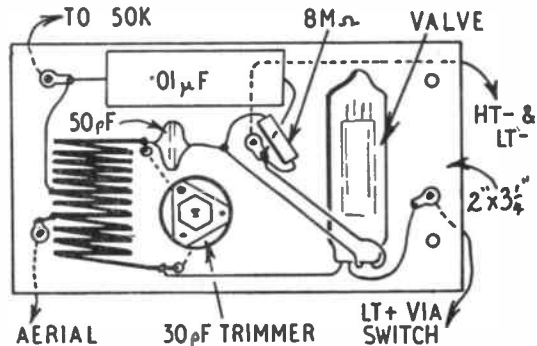
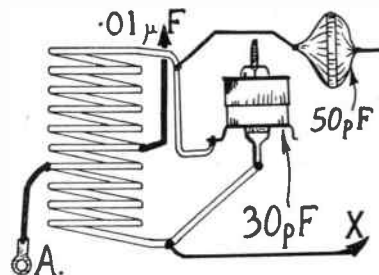
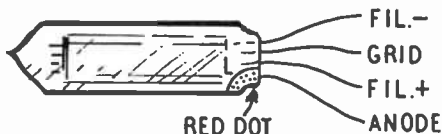
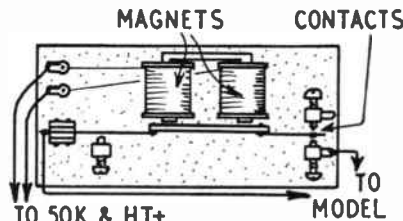

Fig. 2—Wiring diagram of receiver
Fig. 3—Coil and trimmer wiring
Fig. 4—Valve connections
Fig. 5—A dual coil relay
connections, are shown in Fig. 2. The trimmer should be mounted first. To do this, drill a clearance hole for the side and central tags, so that the trimmer fits flat on the Paxolin panel. The side tags are then turned out to hold the trimmer in place.
Coil and trimmer connections are also shown in Fig. 3, and this should make wiring perfectly clear. A centre tap is needed on the coil, and is made by soldering a short length of wire to the centre turn. This wire goes to the $0.1\mu\text{F}$ condenser, and 50K variable resistor.
For the aerial connection, a further short wire is soldered on about one turn from the centre tap. This is marked (A) in Fig. 3. The bolt holding the soldering tag provides a connecting point for the aerial. Subsequently, the aerial tapping may be moved a further turn or so away from the centre tap, if a very short aerial is to be used on the model.
The 50pF fixed condenser is soldered to one end of the coil, as shown in Figs. 2 and 3. The anode lead of the valve is soldered to the other end of the coil, as in Fig. 2. This is marked (X) in Fig. 3.
Two small holes are drilled in the panel, so that a short loop of thin string will hold the valve in place. The valve base is coated with a moisture-repellent, and should not be handled. Valve leads are shown in Fig. 4, the red dot indicating the anode, at the left in Fig. 2. Next comes the filament positive lead, going to L.T. positive (via switch). Grid goes to 50pF condenser and 8 megohm resistor. Filament negative goes to H.T. negative and L.T. negative. Add short lengths of thin sleeving, to ensure that the wires do not touch each other. Do not bend them sharply very near the valve.
AFTER the framework is assembled, all of the outer surfaces have to be 'faired off' to present an even surface to the plywood. Some of the beveling may be done more easily before assembly, and these angles are given on the plan. The hog (A) is shaped and bevelled and fitted next. The gunwales (B) do not need any beveling. At the stem a gunwale is bevelled to fit against the post (Fig. 3), where it is glued and screwed. It is then bent through the slots in the frames and cut to fit in the slot at the transom. The two chines (C) and (D) have to be bevelled and fitted in the same way (Fig. 4). Keep in mind that the surfaces have to be faired off later — it is easier to rub down the edge of a frame than the longer length of a lengthwise part, so it pays to notch a little on the deep side (Fig. 5). The two risers (F) may be fitted now. There is no need for steaming in any of the construction.